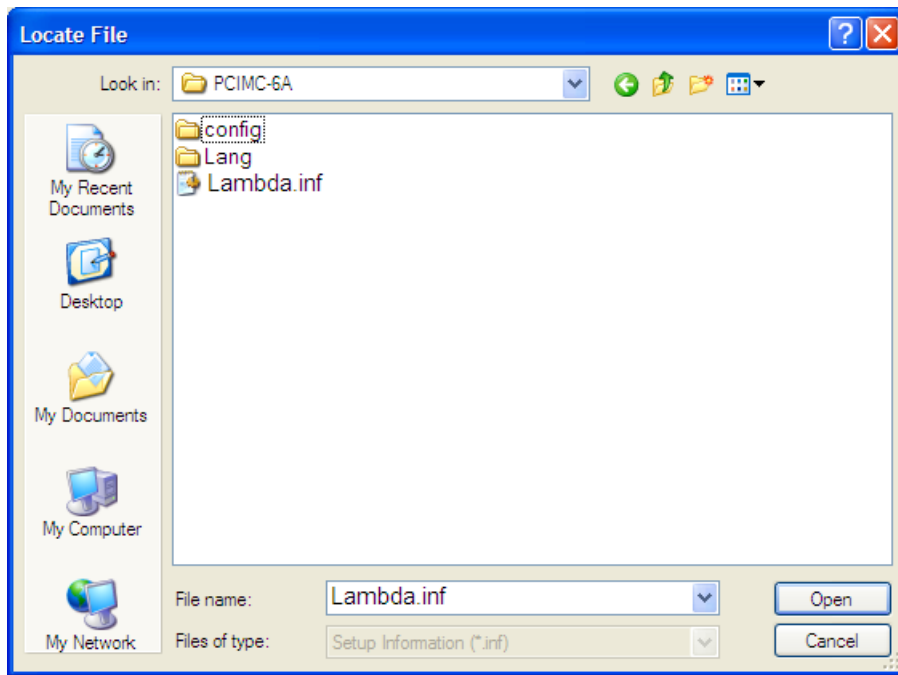

Fig. 2-11 Select the hardware driver
- 6) In “Locate File” dialog box as Fig. 2-11, select the target hardware drive in the list, Choose the target file “Lambda.inf” under directory “C:\Program Files\Naiky\PCIMC-Lambda”, taking PM85A as an example.